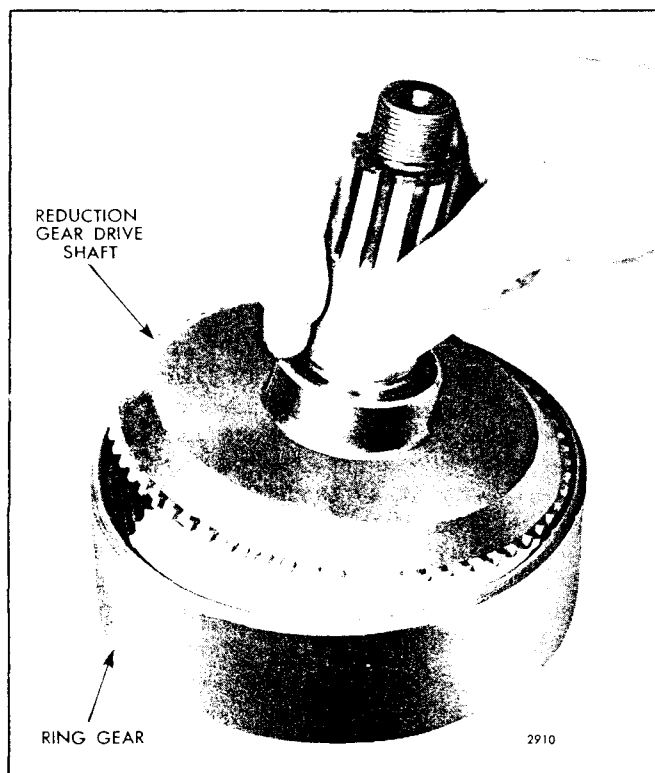

Fig. 103 - Installing Reduction Gear Drive Shaft in Ring Gear (2.1:1 Ratio)
- b. Position the reduction gear drive shaft over the top of the planetary ring gear. Align the splines in the flange of the drive shaft with the splines inside of the ring gear, then lower the drive shaft straight in the ring gear as shown in Fig. 103 until it seats on the shoulder in the ring gear.